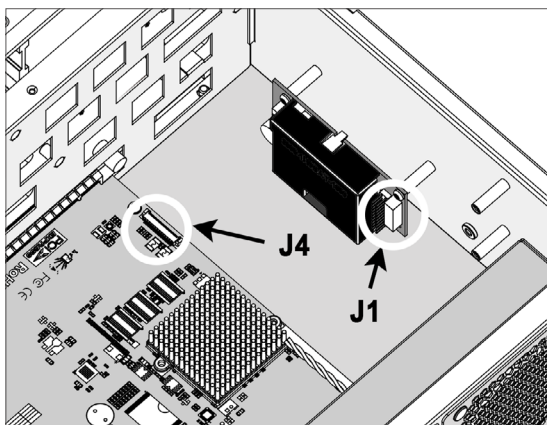

Figure C-7, Insert the cable connector into J1 & J4
3. Insert the cable connector into the **J1** (12-pin box header battery connector on ARC-6120-BAT-12G module), and also insert another side of the cable connector into the **J4** (14-pin box header battery connector on ARC-5088 backplane), as shown in Figure C-7.